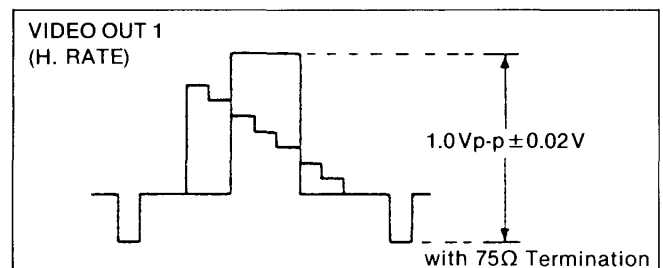

Figure E19
4. Adjust VR3503 for 1.0 +/- 0.02Vp-p as shown in Figure E19.